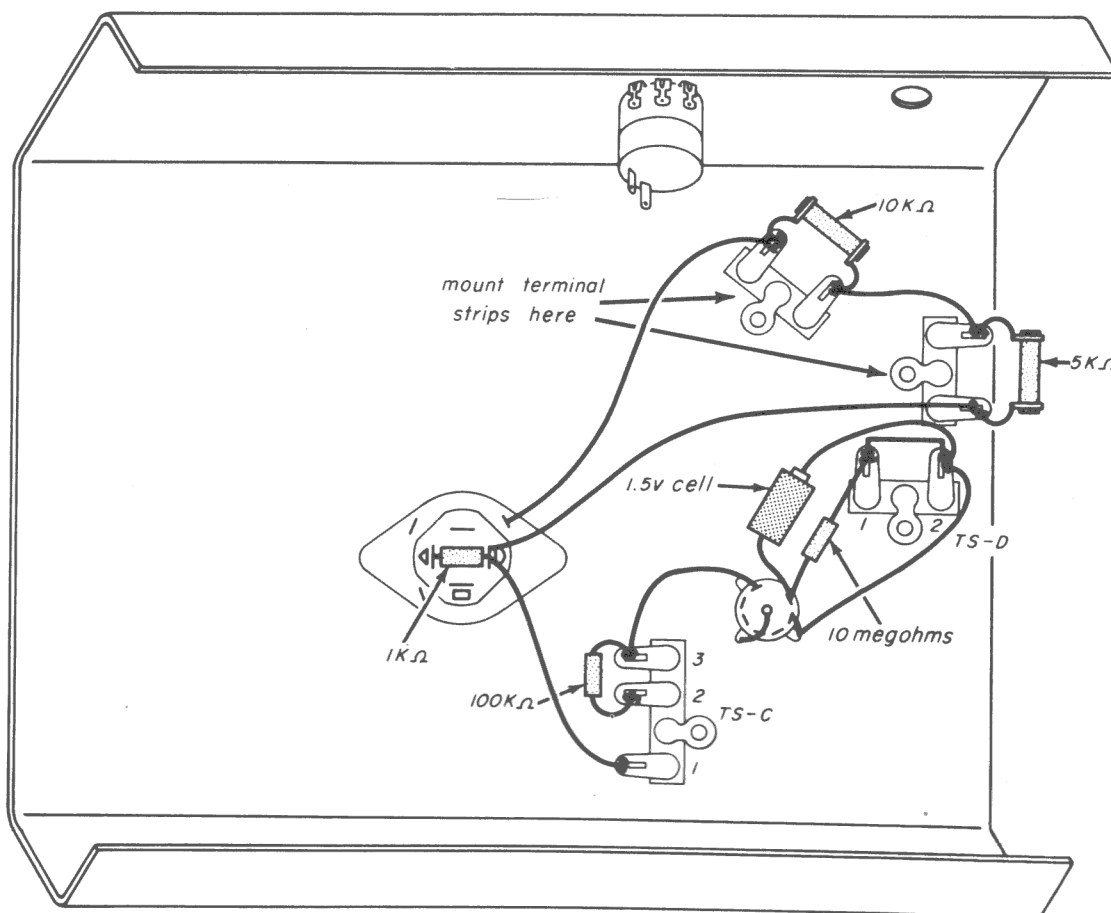
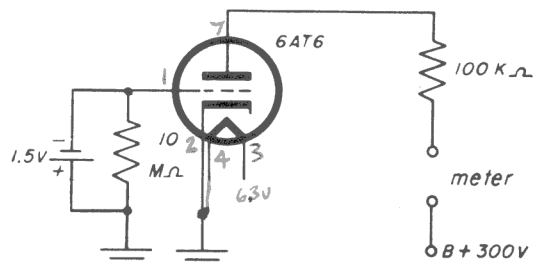

Fig. 25-2
Fig. 25-3
Step 2. Disconnect the lead of the 100 k-ohm resistor (in the plate circuit of the 6AT6) that goes to lug 1 of TS-C, and connect this lead to lug 2 of this terminal strip, as shown in Fig. 25-2. (This is to allow the meter to be inserted in the 6AT6 plate circuit.)
Step 3. Mount two 2-lug terminal strips as shown in Fig. 25-2. Solder a 5 k-ohm 10-watt resistor to one of the terminal strips and solder a 10 k-ohm 5-watt resistor to the other terminal strip. Connect one end of the 5 k-ohm resistor to one end of the 10 k-ohm resistor, as shown in the figure. Connect a lead from the free end of the 5 k-ohm resistor to the $\bigcap$ (semicircle) section of the electrolytic capacitor. Connect a lead from the free end of the 10 k-ohm resistor to a ground lug on the electrolytic capacitor. The purpose of these resistors is to act as a temporary load on the power supply.
Step 6. Compare your chassis with the pictorial diagram of Fig. 25-2, and the schematic diagram of Fig. 25-3. If your wiring is correct, proceed with the experiment.